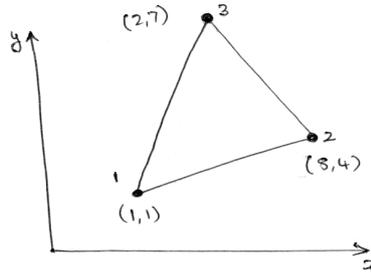

Figure-5
23. a) For the triangular element shown in figure-5 obtain the strain displacement relation matrix $[B]$ and determine the strains ϵ_x , ϵ_y and γ_{xy} .